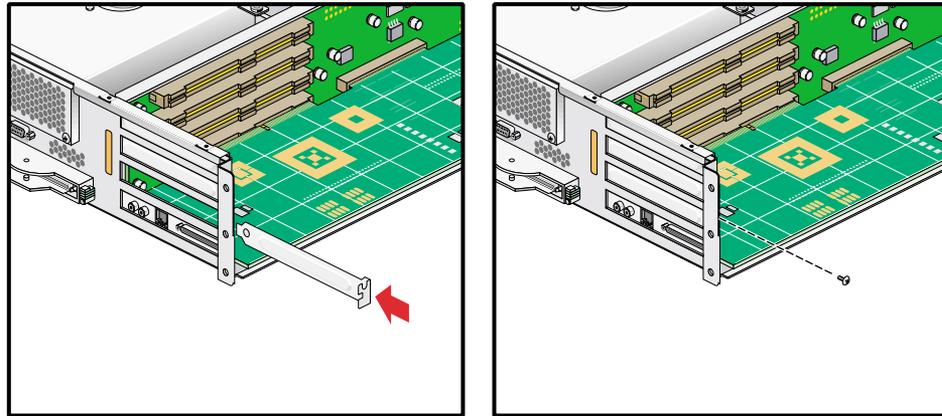

Figure 7-10 Installing a Blanking Plate
9. If you have removed a card from one of the upper three slots (and will not be replacing it with another) place a blanking plate to cover the slot and screw in the retaining screw, as shown in Figure 7-10.